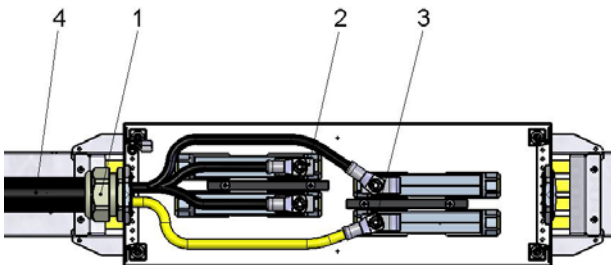

Fig. 51: Possible connection diagram for ProShell 128 Support Profile System
1. The connecting cables (4) are not included in the scope of delivery (see Fig. 51).
2. The connection of the cables to the tubular cable lugs (2 and 3) of the conductor rail line feed is to be carried out by the customer (see Fig. 51).
3. A strain relief for the connecting cable (4) must be installed on site. The round screw connection (1) on the terminal box must not be used as strain relief (see Fig. 51).